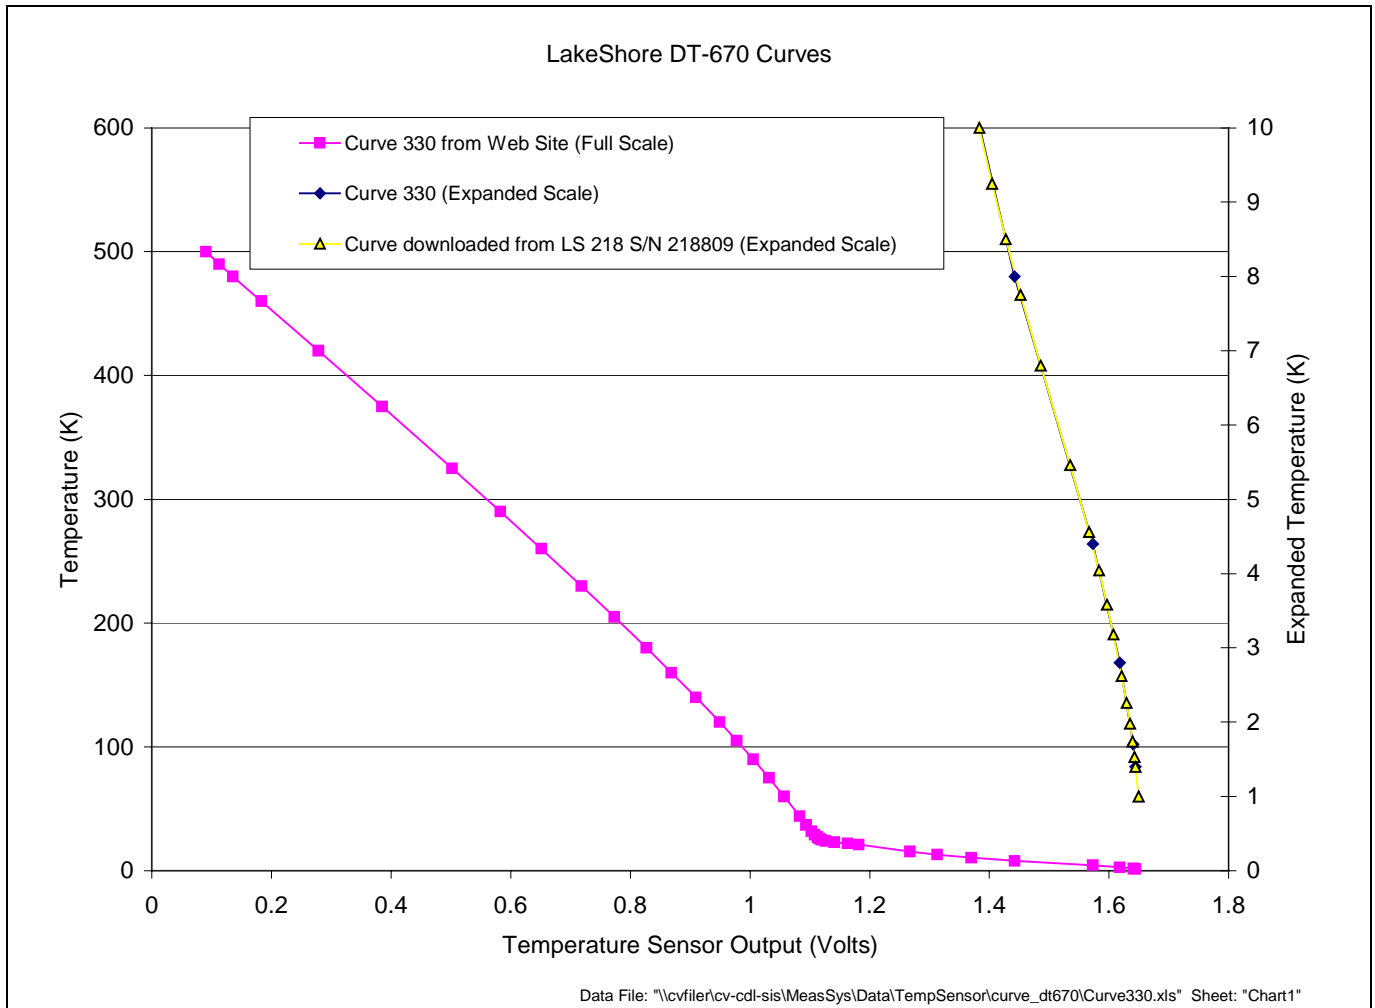

Figure 1: LakeShore DT-670 Temperature Sensor Curves
1. Obtain the table of breakpoints corresponding to temperatures *vs.* voltage for the for the DT-670 temperature sensor. The table only needs to be downloaded once and is graphed in Figure 1 from two different sources. The curves labeled “330” were downloaded from the LakeShore web site. The other curve is from a particular LakeShore 218 Temperature Monitor and is nearly the same as the “330” curve. The data for that curve is tabulated in Table 1. Because the curve from the temperature monitor contains